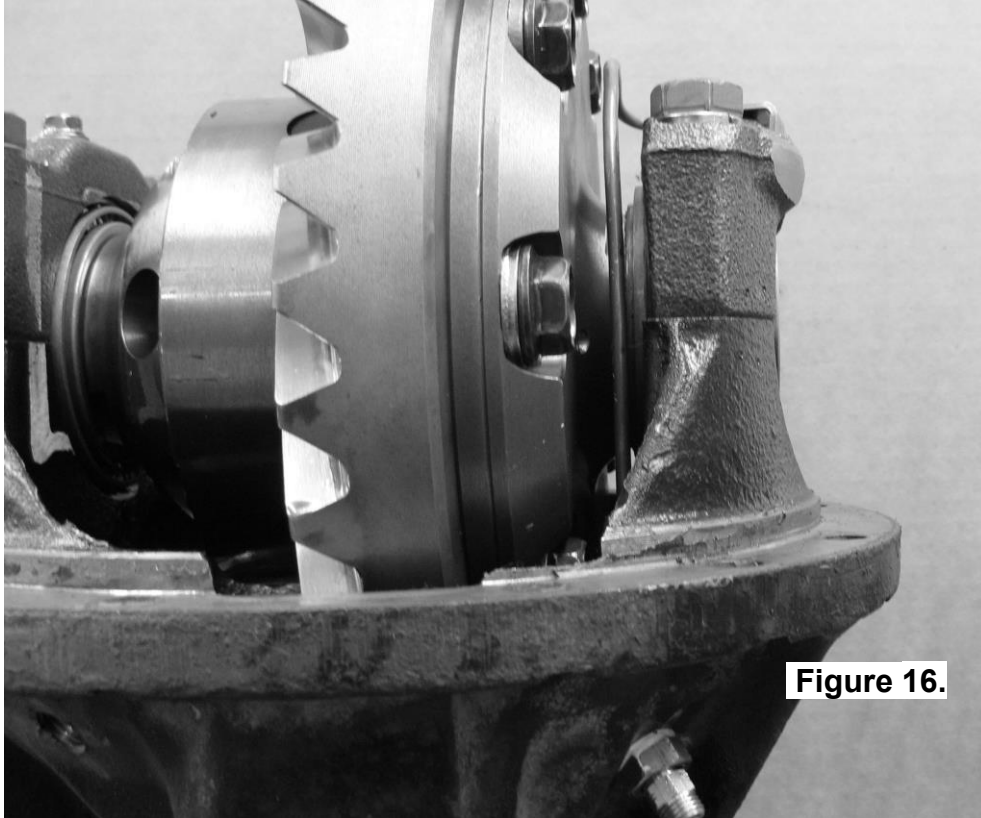

Figure 16.
- With the seal housing tube now firmly secured into the bulkhead fitting, bend the tube so that it closely follows the profile of the differential. (Figs.16., 17., & 18.)